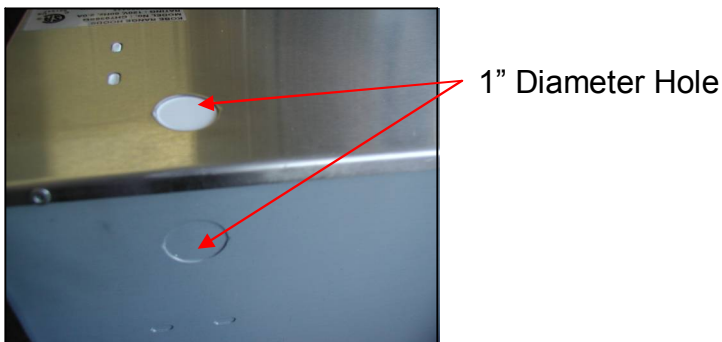

Figure 12
3. Unscrew the six screws on the bottom casing. Remove the bottom casing. If necessary, arrange the electrical wires to run through the 1" diameter hole on the top or the rear of the hood. Refer to Figure 12.